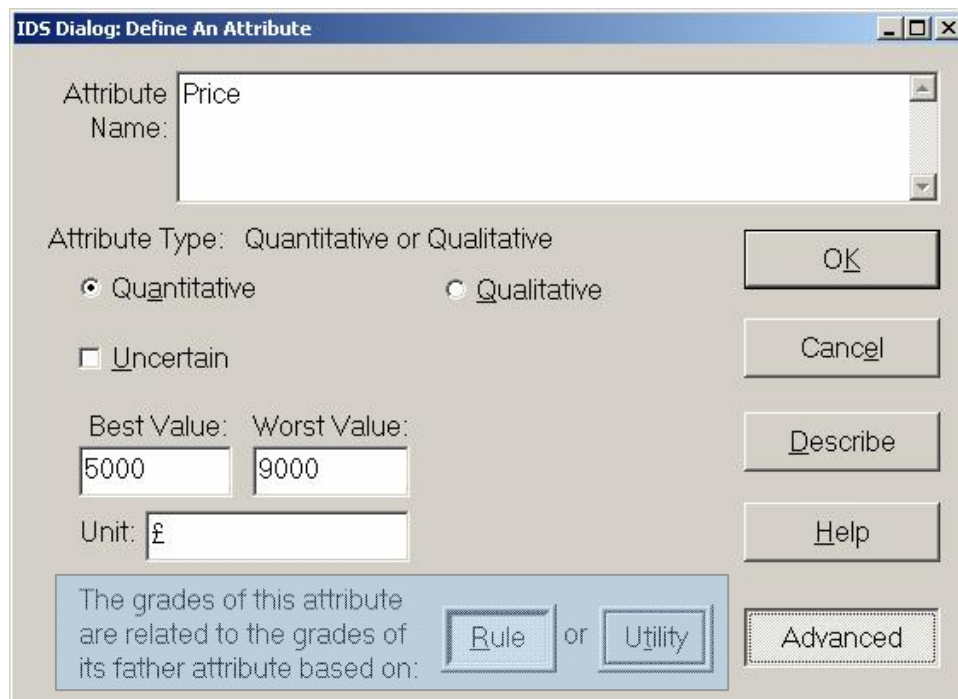

Figure 2.7 Define A Qualitative Attribute
- From the dialogue window, click the *Quantitative* radio button (**Figure 2.7**)
In the attribute definition dialog (Figure 2.5 and Figure 2.7), you are asked whether the attribute to be defined is related to its father attribute based on rule or utility. This section will explain what the difference is between the two. It is an advanced feature of the IDS. You may skip answering the question if you are not sure how to handle it. By default, the IDS program will assume a linear value or utility function for each attribute.
This is the so-called rule based approach. If you prefer to relate *Price* to *Overall Performance* by rules, then you should select the *Rule* button when defining the *Price* attribute using the dialog box shown in **Figure 2.7**. After the *Rule* button is selected, you can then select from the main menu of the IDS window *Modelling->Convert Values* to pop up the *IDS Dialog: Convert Child Attribute's Values (or Grades) to Its Father's Grades* (**Figure 2.11**). From this dialog, you can input the rules.
- Click the *Utility* option in the *Define An Attribute* dialog window (**Figure 2.7**)